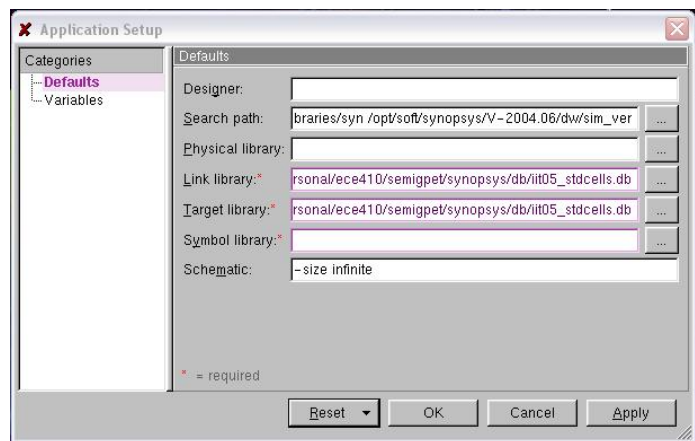

Figure 2: Setup Link and Target Libraries.
5. Select **File >> Setup**. The window in Figure 2 will open.